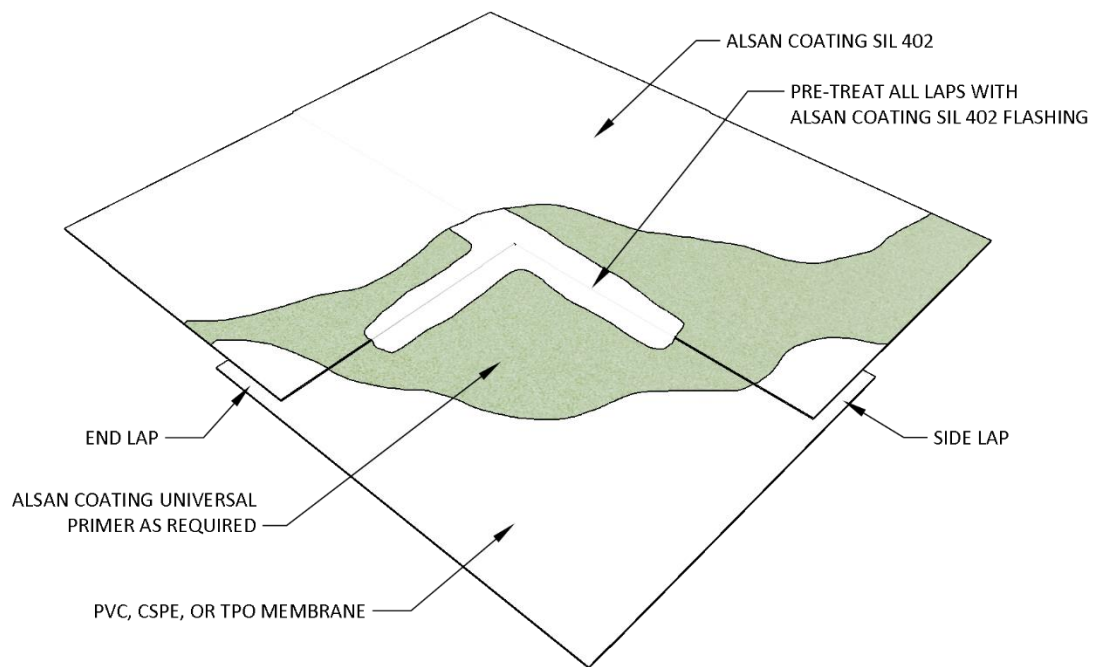

Figure 2.1i Silicone Roof Coating Over TPO/CSPE/PVC, Side/End Laps
- Refer to flashing detail guidelines indicated in Figures 2.1i through 2.1l.